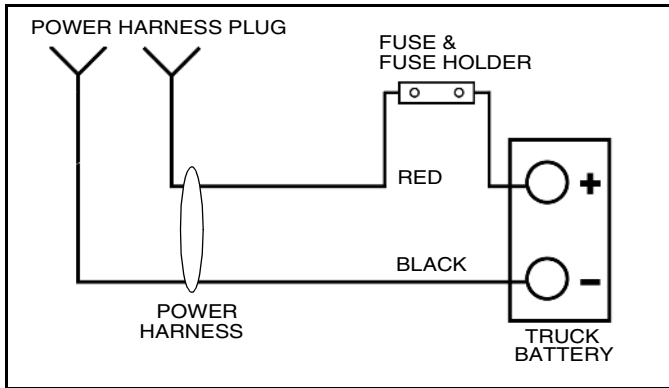

Figure 1-12
4. Mount the fuse holder near the battery using (2) #10 x 1" self-tapping screws.
5. Take the cover off of the fuse holder. Place the end of the 6 in. long power wire with the small ring terminal on one stud. (See Figure 1-12).